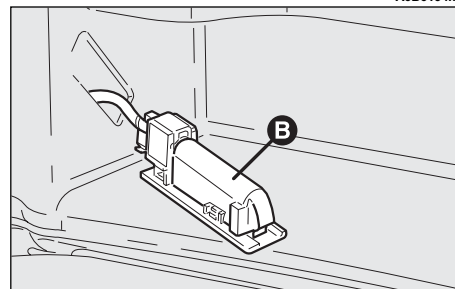

fig. 62
- Refit the cover (**B-fig. 62**).